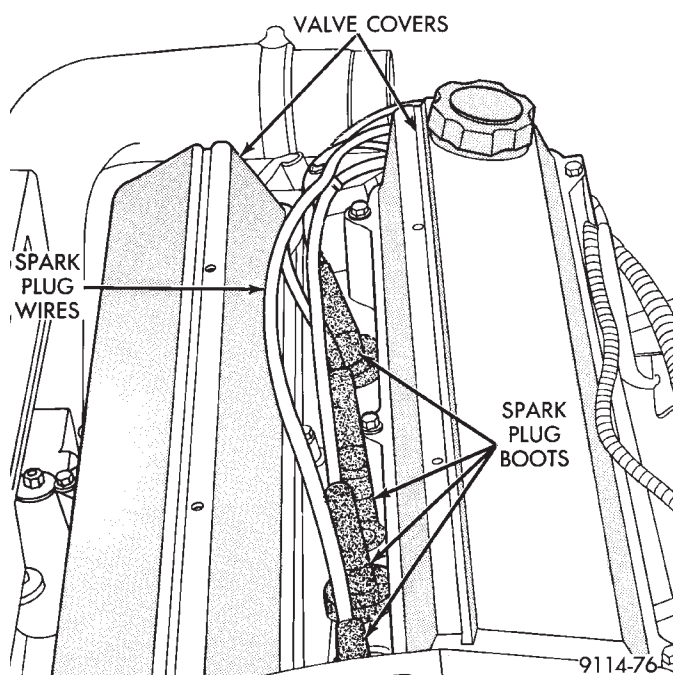

Fig. 6 Ignition Cable Mounting and Attachment
(7) Verify the alternator wiring and belt are correctly installed and tightened.
(8) Check ignition cable routing and attachment (Fig. 6).